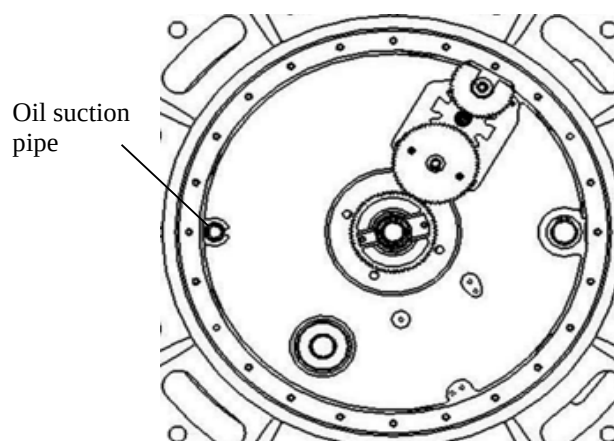
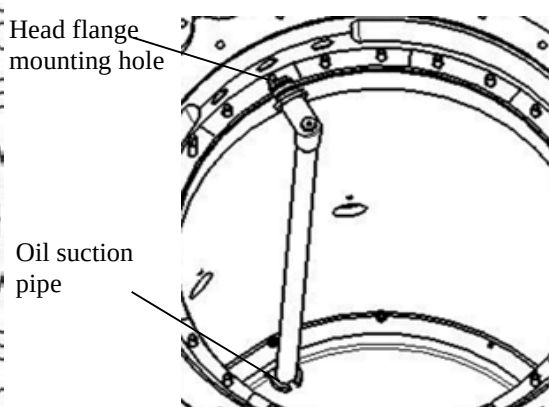

Figure 30 Install the pipe into the positioning hole
Figure 31 Insert the pipe into the mounting hole
- 3) Install the oil suction pipe into the positioning hole at the bottom of the oil compartment (Figure 30). Then, insert the pipe into the tap-changer head flange mounting hole (Figure 31).